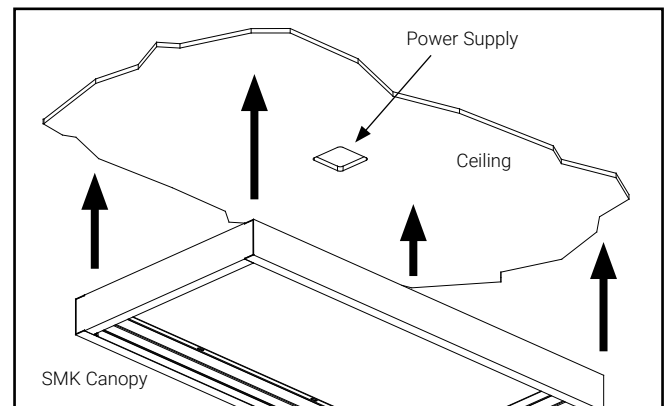

Figure 3.
6. Center or offset power supply or supply conductor junction box inside SMK canopy (Figure 3).
7. Align slots located on each SMK panel (A, B, C) with studs in ceiling or wall (Figure 3). Using a pen, chalk or tool, mark stud locations using slots as guide. Ensure canopy is square prior to fully securing the canopy to ceiling. Slots will allow for adjustment once the canopy is attached.